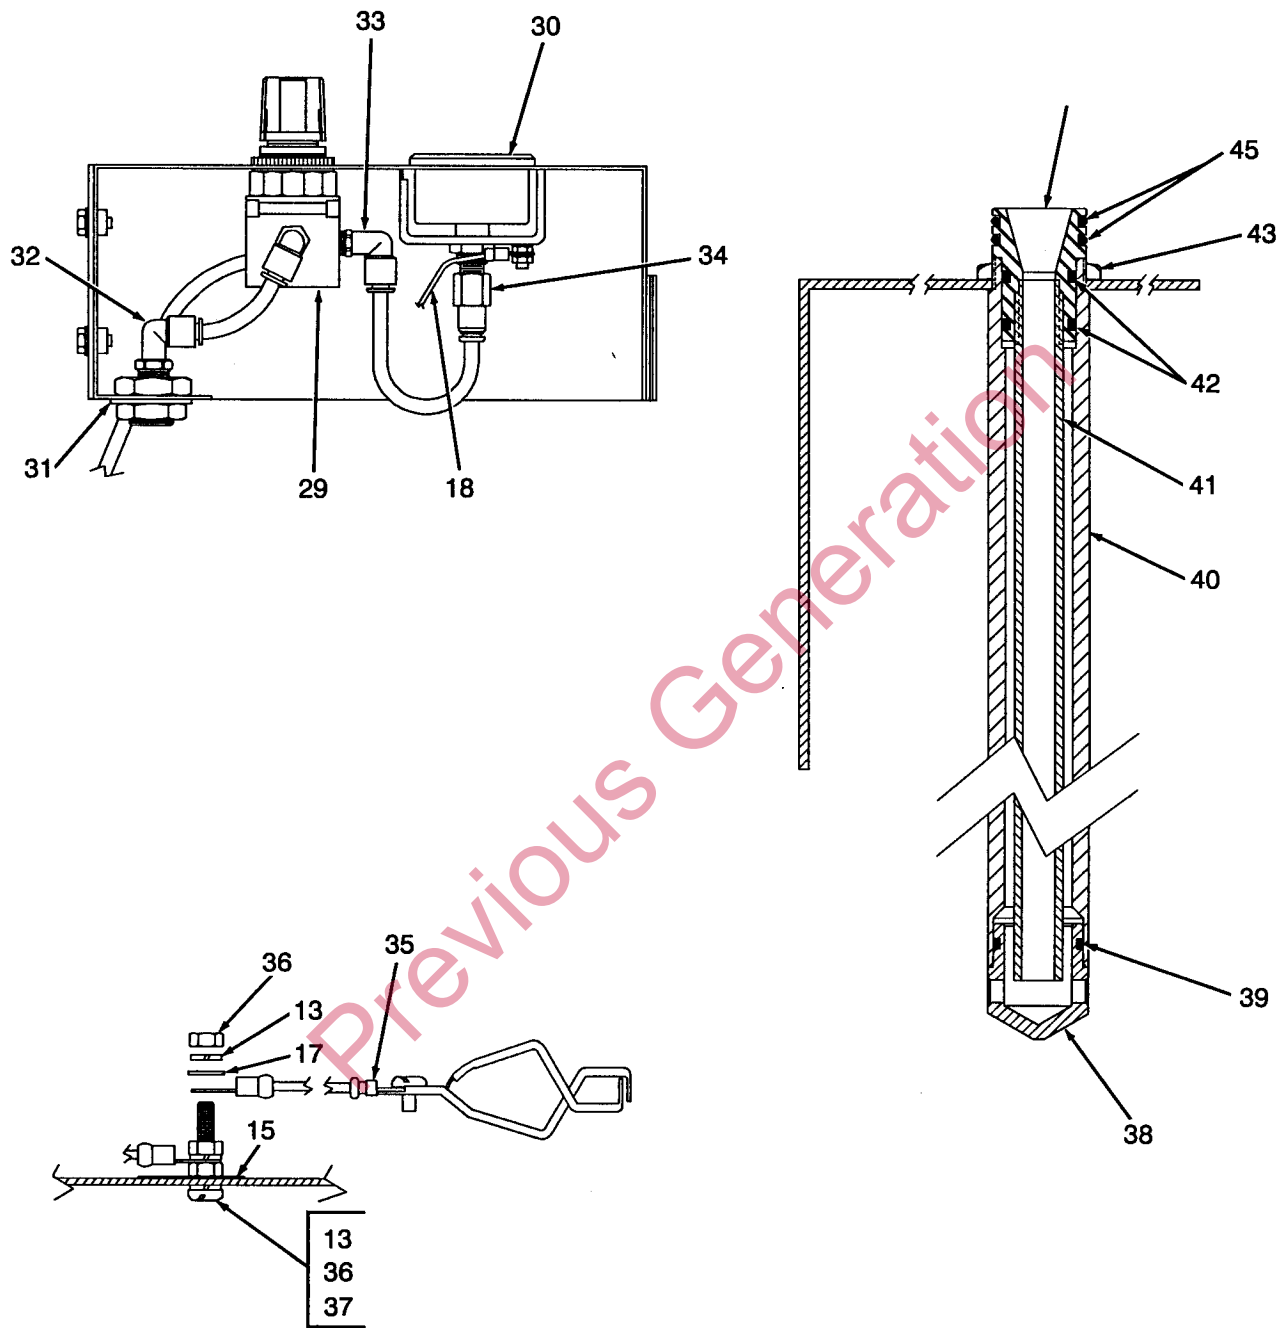

Figure 3 — Vibratory Box Feeder Parts (continued)
**Parts List** *(continued)***Figure 3 - Vibratory Box Feeder Parts** *(continued)*
Reference numbers refer to Figure 3.